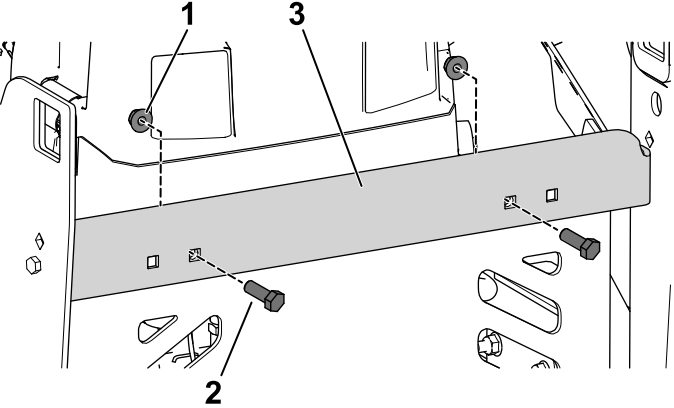

Figure 23
2. Use 2 hex-head bolts (5/16 x 7/8 inch) and flange nuts to secure the cross brace to the rear guard (Figure 23).